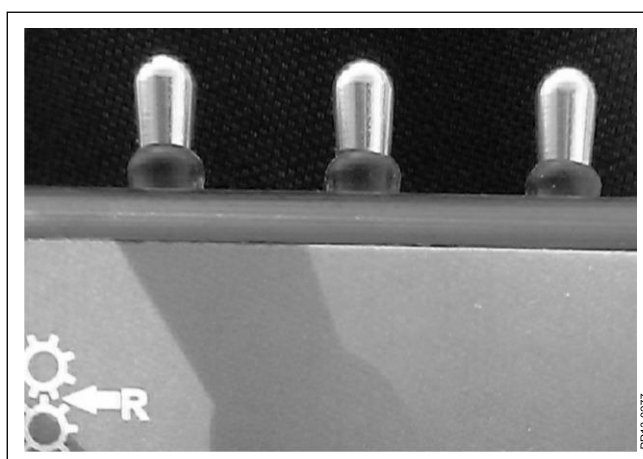

Fig. 2-8
**Fig. 2-8** There are three toggle switches at the front of the control box. One of these controls the folding of the chute, while the other two switches are for accessories. These switches automatically return to the neutral centre position after being activated.